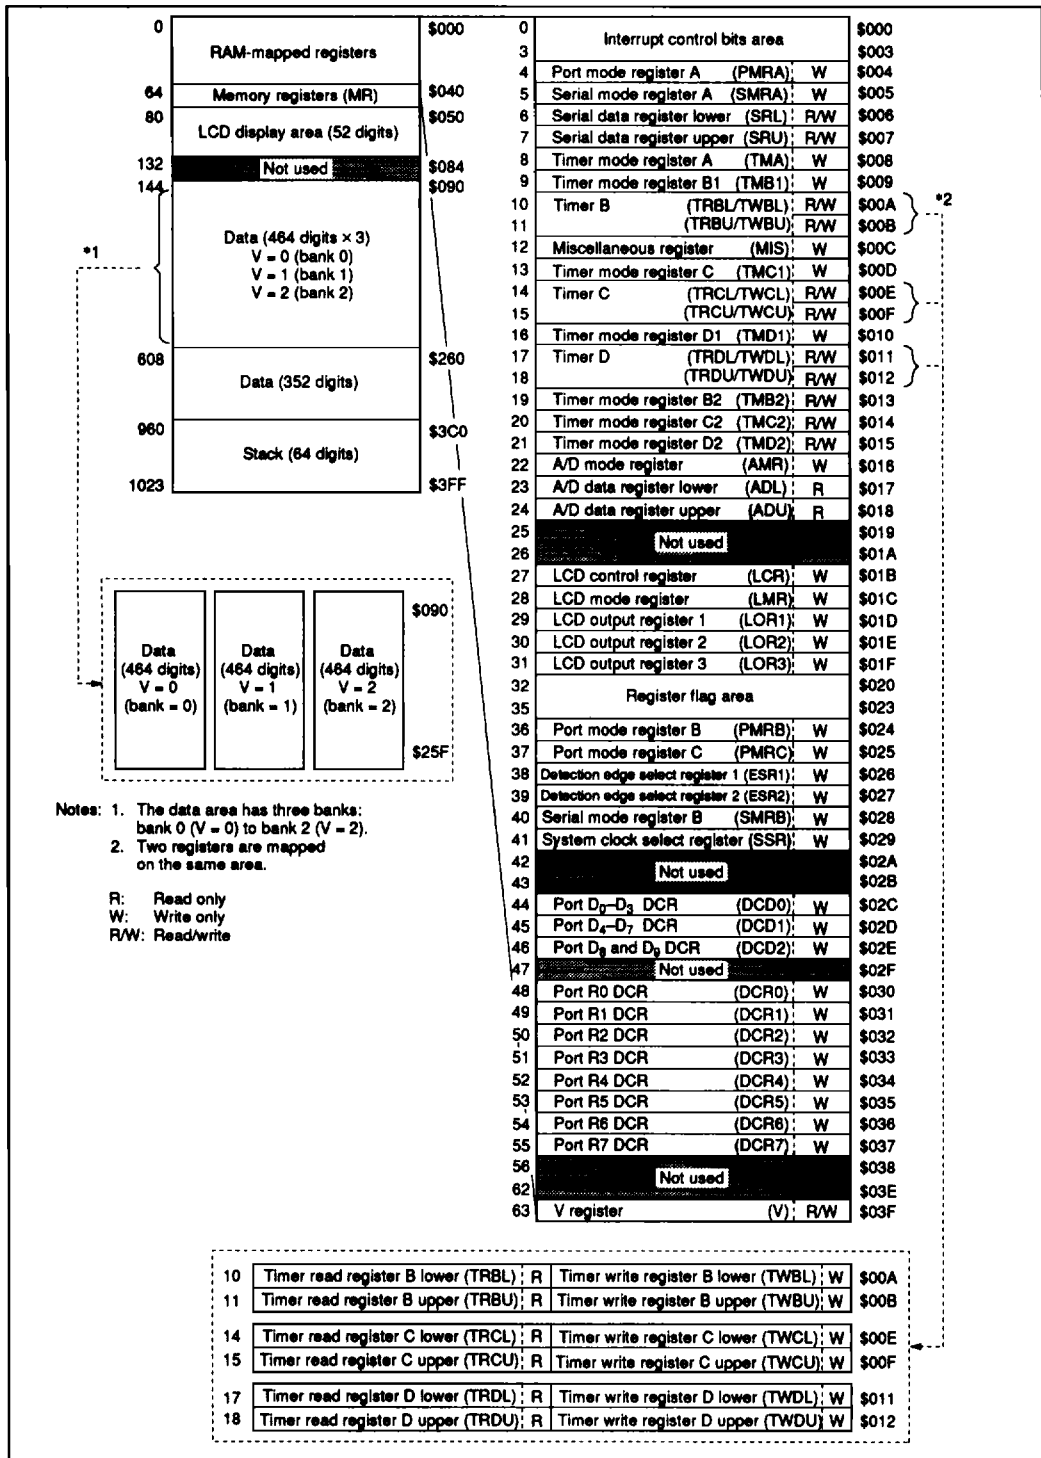

Figure 2 RAM Memory Map
The MCU contains a 1,876-digit × 4-bit RAM area consisting of a memory register area, an LCD data area, a data area, and a stack area. In addition, an interrupt control bits area, special register area, and register flag area are mapped onto the same RAM memory space as a RAM-mapped register area outside the above areas. The RAM memory map is shown in figure 2 and described below.
This area is used as mode registers and data registers for external interrupts, serial interface, timer/counters, LCD, and A/D converter, and is used as data control registers for I/O ports. The structure is shown in figures 2 and 5. These registers can be classified into three types: write-only (W), read-only (R), and read/write (R/W). The SEM, SEMD, REM, and REMD instructions can be used for the LCD control register (LCR: \$01B), but RAM bit manipulation instructions cannot be used for other registers.